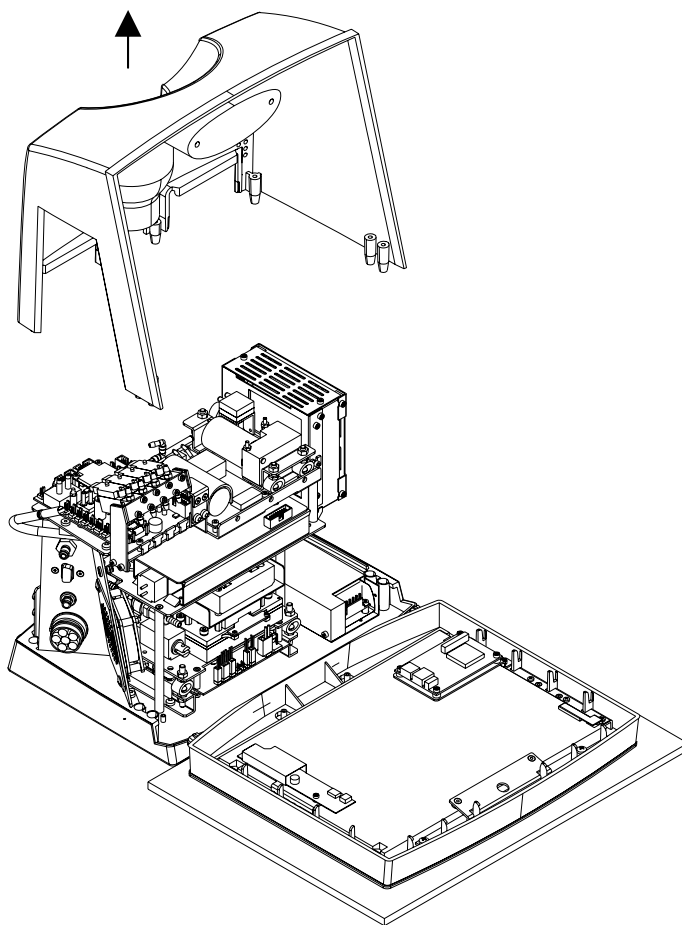

Figure 7.2-4 Disassembly cabinet – remove cover.
- 6) The cover can now gently be released by pulling it upwards, see figure 7.2-4.